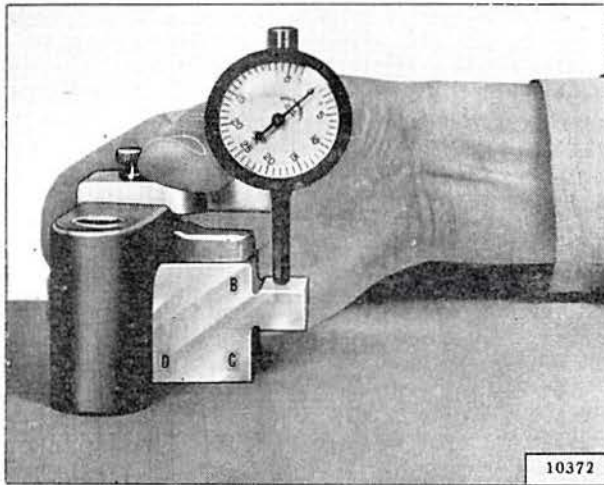

FIG. 252—PINION MASTER GAUGE
• Refer to Fig. 252.
The dial gauge is set to the master gauge for the different axles as shown in Fig. 252. Use the correct master gauge surface for the model axle being adjusted. Hold the dial indicator and gauge as shown and set the dial bezel to position the hand at zero with one-half turn tension on the gauge pin. This sets the dial to register at zero when mounted in the axle when the distance between the finished head of a standard pinion and the center of the differential carrier is spanned. After setting the dial, use care not to jar it or turn the bezel to disturb the setting. Assemble the pinion in the case with the same thickness shim packs originally installed and without the oil seal.